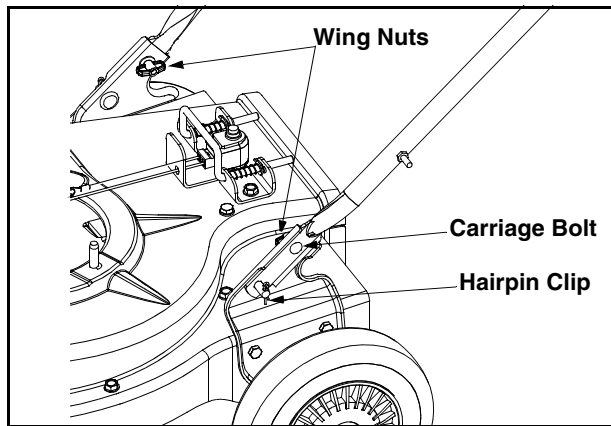

Figure 3
- Remove the hairpin clips from the handle brackets and remove the carriage bolts and wing nuts from the lower handle. See Figure 3.